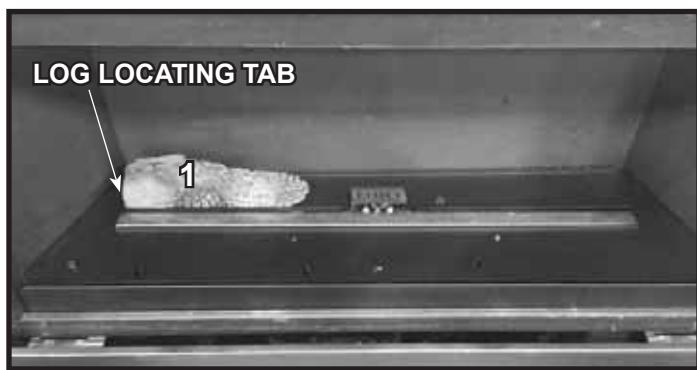

Figure 4. Place Log #1
8. Install Log #1 by locating the back left tab behind the burner. Place the log so that the left end is contacting the tab and the front of the log is touching the back sheet metal flange behind the burner. See Figure 4.